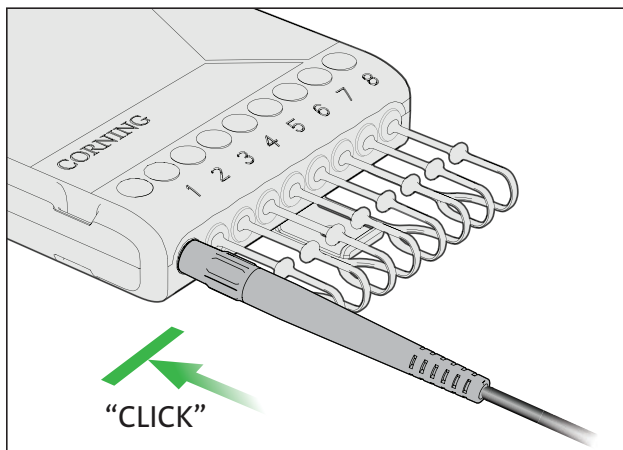

Figure 6
- 1.3 It is very important that the connectors are known to be clean or cleaned prior to connection. A dirty connector will cause attenuation and may damage the connector end-face permanently. Corning Optical Communications factory-assembled multifiber Pushlok connectors have tamper-proof factory seals which verify that the connectors have been cleaned and tested prior to shipping (see Step 3 and Figure 6).
Step 6: Insert the drop connector into the terminal port, until the button clicks and the latch is engaged. (Figure 6)